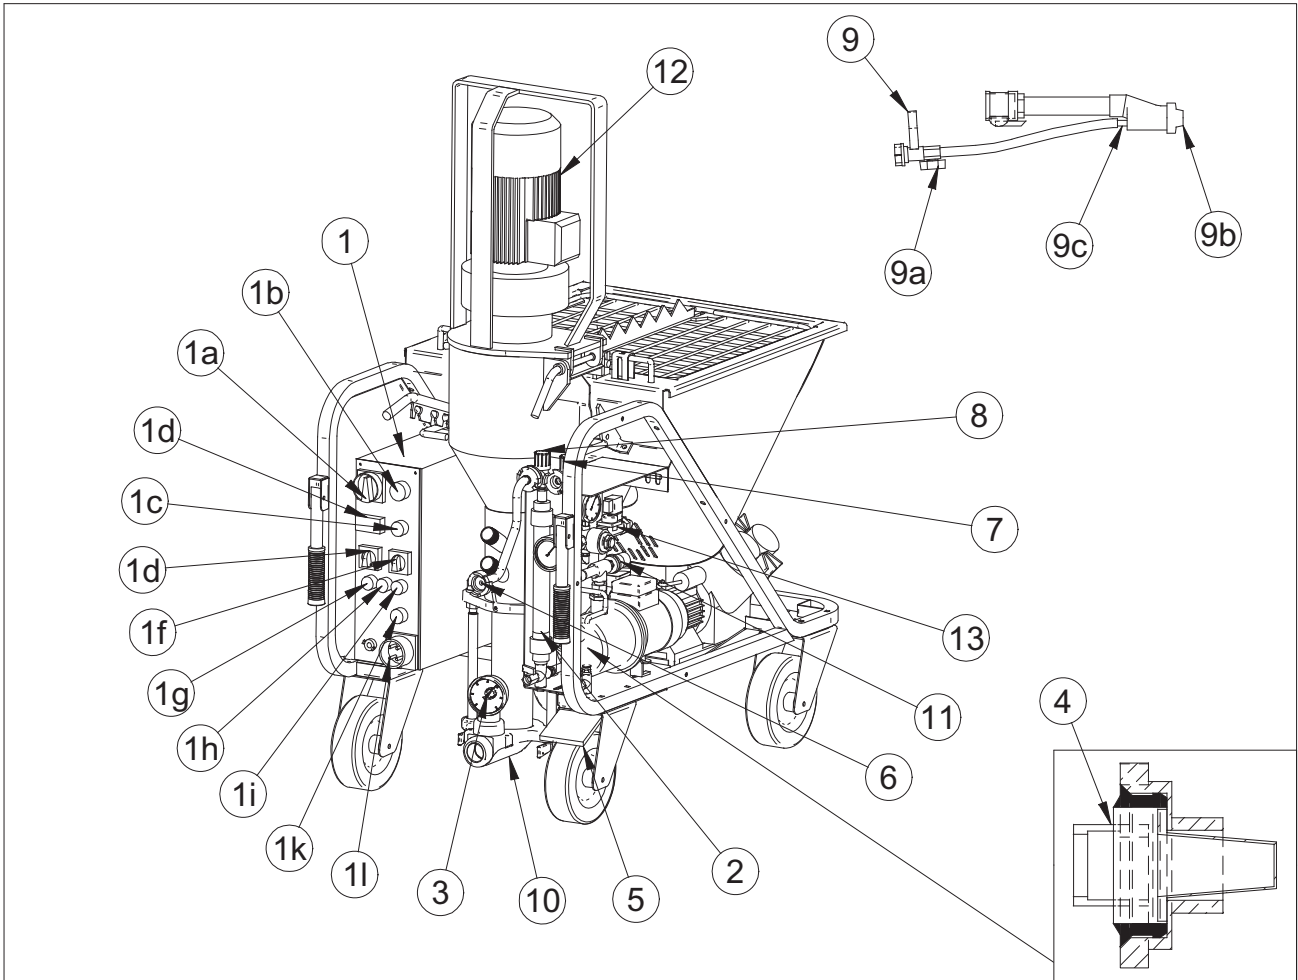

FIG.10
Close the air valve (ref.9a) supplying the spray jet (fig.10). Open the micrometric valve (ref.8) virtually fully. Turn the main switch/inverter (ref.1a) to position 1 or 2: in the correct position the blue "phase correct" lamp illuminates (ref.1g). Check that the water pressure gauge (ref.11) indicates a minimum pressure of 3.5 bar and that the green "no water pressure" lamp (ref.1i) is off. Otherwise, activate the pump by means of the water pump switch (ref.1f). Press the water supplement pushbutton (ref.1d) for 3-4 seconds. Start the pump by means of the start pushbutton (ref.1c): the lamp on the start/stop pushbutton illuminates and the mortar pump starts up for a few seconds.